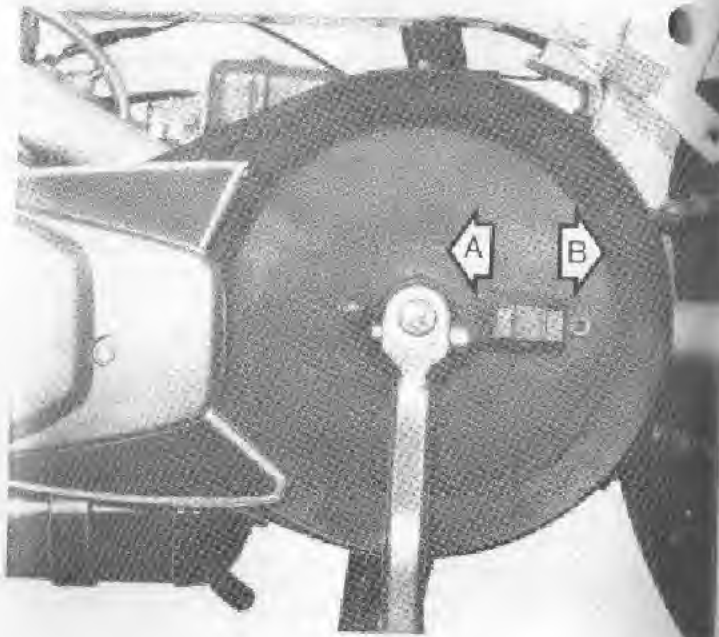

Fig. 12
Under certain circumstances (like an empty fuel tank!) you may have to pedal the Moped with the engine stopped. In order to pedal without cranking the engine, push the engine drive knob (Fig. 12) in towards the center of the crank to position (A). This operation must always be performed with the engine shut off. It is not recommended that you use your Moped as a bicycle for an extended period of time or especially when going down a slope. The driven-pulley might seize on the sprocket and rapidly be damaged.